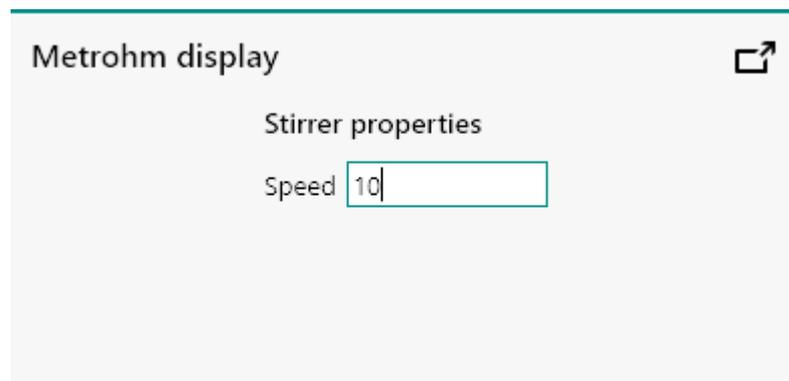

Figure 191 Adjusting the Speed numerically
- **Numerically:** by typing the value directly in the **Metrohm display** panel (see figure 191, page 167).